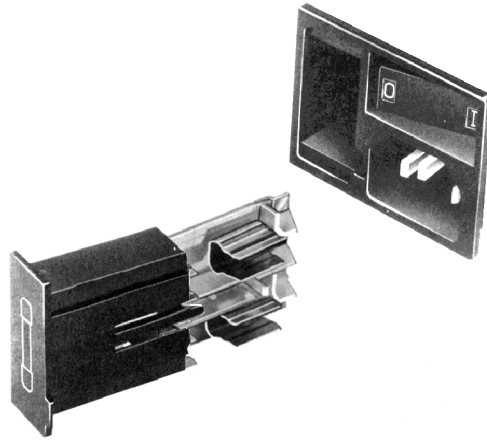

Figure 5.2: The fuse box and holder (with fuses), removed from instrument.
- 6 When removed, the fuse assembly will appear as shown in Figure 5.2. The holder inside contains two fuses.